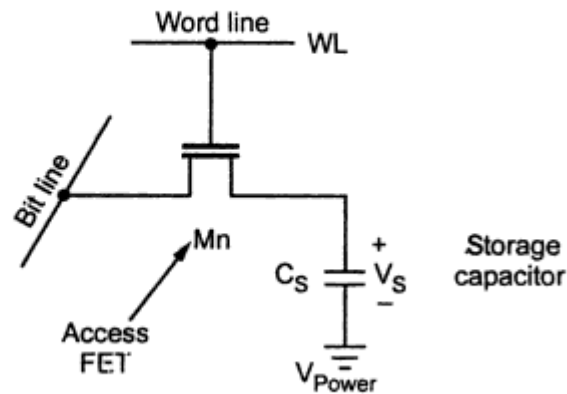

Fig. 5.47 Write timing
- Fig. 5.47 shows single transistor DRAM.